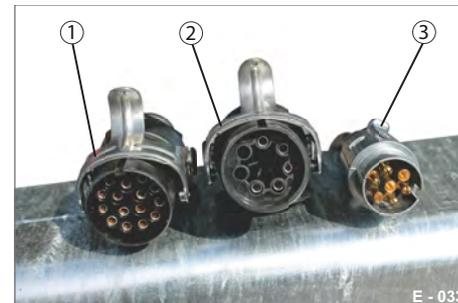

Fig. 16 Plug 12 V - 24 V
- ▶ Connect the electrical system plug (Fig. 16/1 or 3) and the EBS plug (Fig. 16/2) to the towing vehicle.